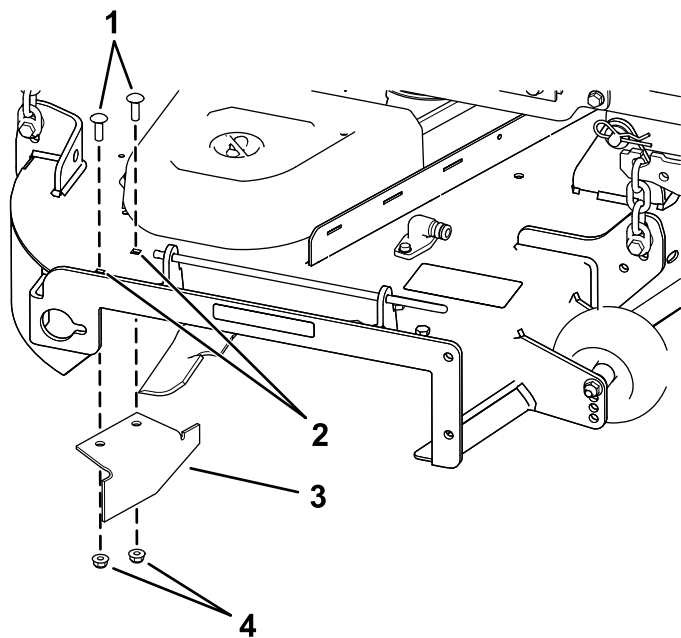

Figure 35
14. Locate the cutoff baffle in the loose parts bag, remove the fasteners at the rear holes of the discharge plate, and install the baffle at the side-discharge opening on the mower deck (Figure 35).